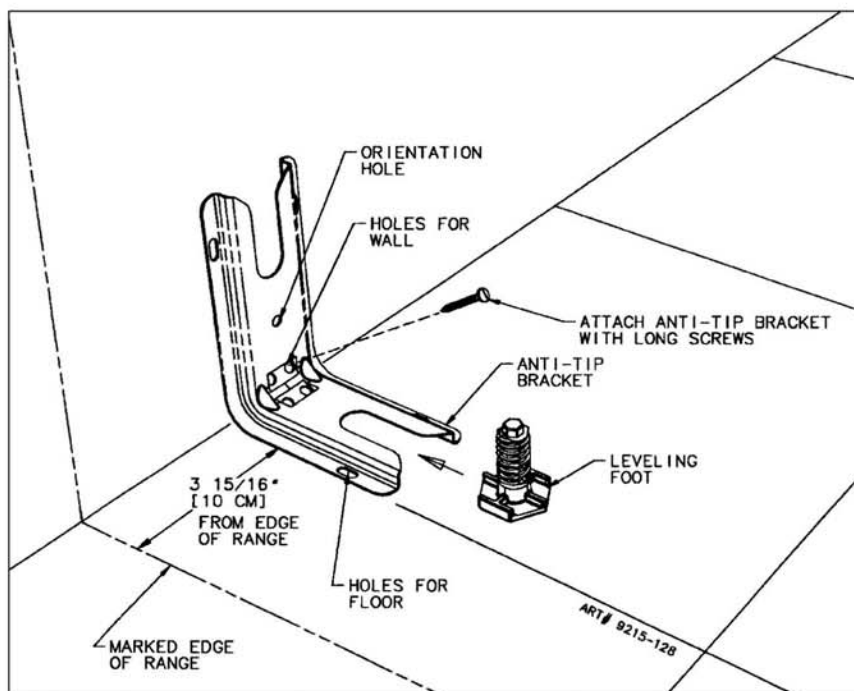
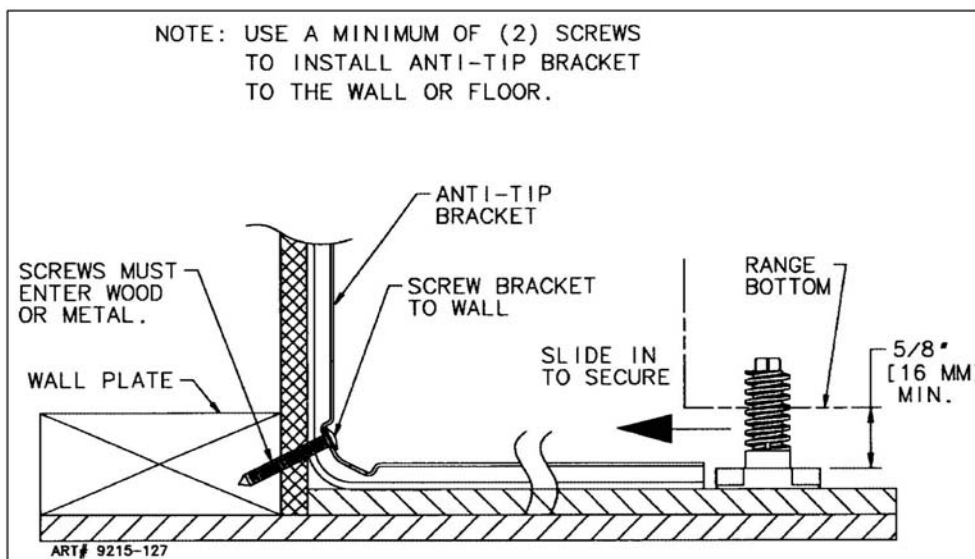

FIGURE 3
FIGURE 4
STEP 1 - Locating The Bracket (See Figure 3)
- B. Place the BRACKET 3-15/16" from the marked "EDGE" toward center of opening and against the back wall, as shown in figure 3, with orientation hole against wall.
- C. Use the bracket as a template and mark the required holes, as shown in figure 3, for the type of construction you will be using.
1. Floor: Locate the center of the two holes identified in figure 3 as "HOLES FOR FLOOR". Drill a 1/8" pilot hole in the center of each hole (a nail or awl may be used if a drill is not available). Secure the ANTI-TIP bracket to the floor with the two screws provided. Proceed to Step 3.
2. Wall: Locate the center of the two holes identified in figure 3 as "HOLES FOR WALL". Drill an angled 1/8" pilot hole in the center of each hole as shown in figure 3. (A nail or awl may be used if a drill is not available). Secure the ANTI-TIP bracket to the wall with the two screws provided as shown in figure 4. Proceed to STEP 3.
1. Suitable screws for concrete construction can be obtained at the hardware store. Drill the required size hole for the hardware obtained into the concrete at the center of the holes identified in figure 3 as "HOLES FOR FLOOR". Secure the ANTI-TIP bracket to the floor. Proceed to STEP 3.
- A. Align the range to its designated location and slide it back into position. Note: A minimum clearance of 5/8" is required between the range and the leveling foot that will engage the ANTI-TIP bracket, see figure 4.